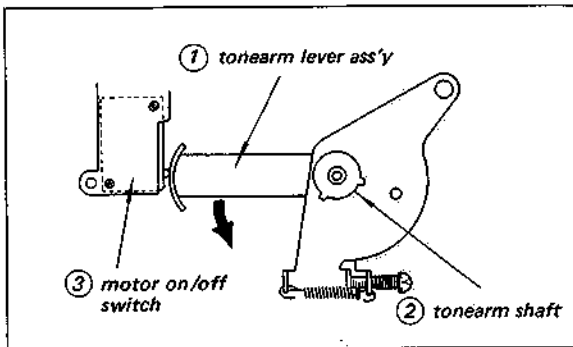

Fig. 1-3. Tonearm lever ass'y movement
The turntable starts to revolve when the tonearm is lifted from its rest and moved towards the lead-in groove of the record. This is because the tonearm ass'y (1) which is attached to the end of the tonearm shaft (2) rotates and removes the pressure from the tip of the motor on/off switch (3) as shown in Fig. 1-3.